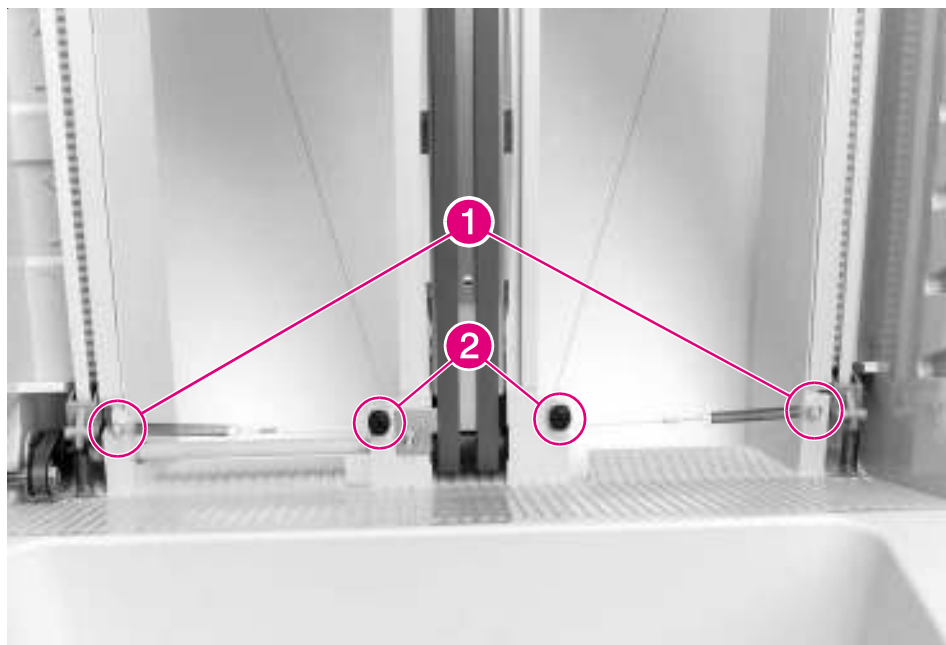

Figure 6-167 8-bin Mailbox Anticurl Strings (1 of 2)
- 2 At the lower-left side of the 8-bin Mailbox frame, locate the Tension Springs on the Anticurl Strings, and remove the 2 screws that secure the springs to the frame (Figure 6-167, callout 1).